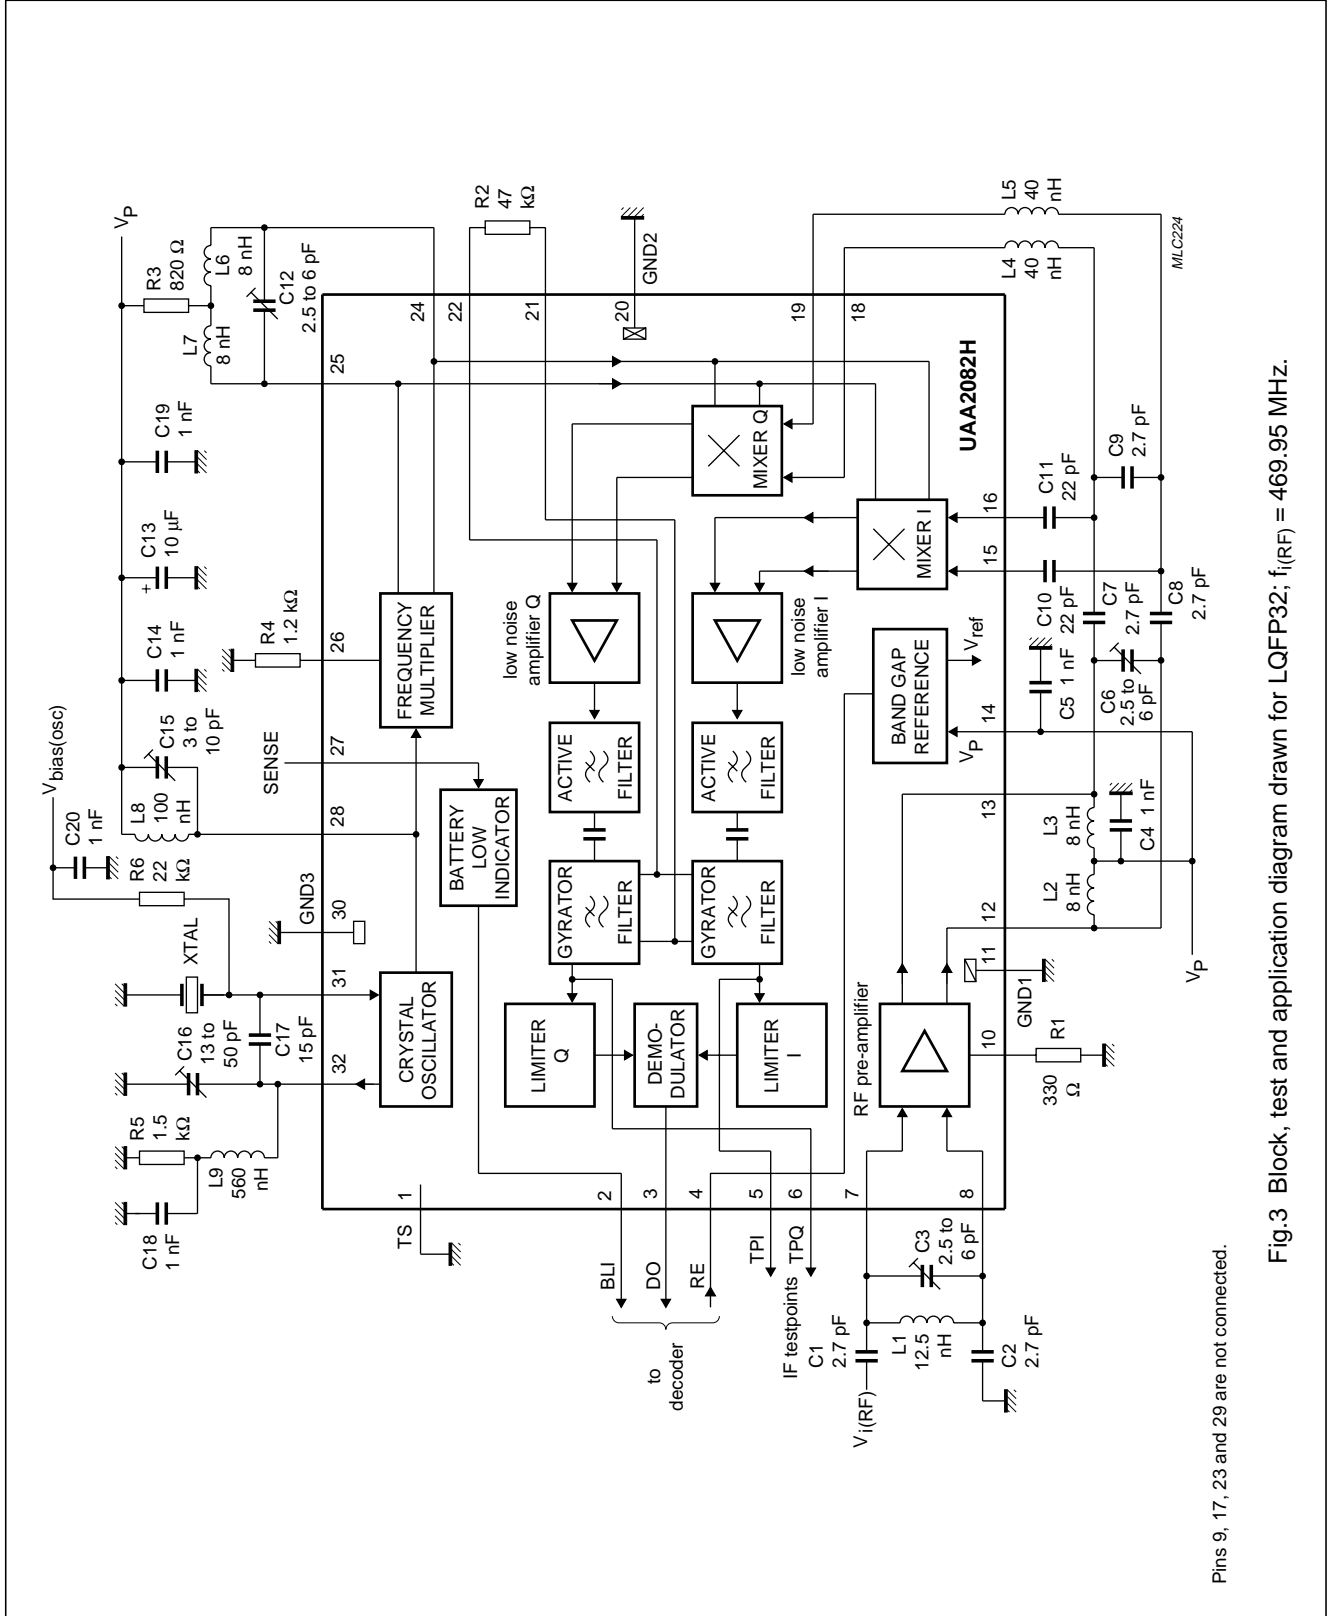

Fig.3 Block, test and application diagram drawn for LQFP32;  $f_i(\text{RF}) = 469.95 \text{ MHz}$ .
**Table 2** Tolerances of components shown in Figs 3, 4 and 5 (notes 1 and 2)